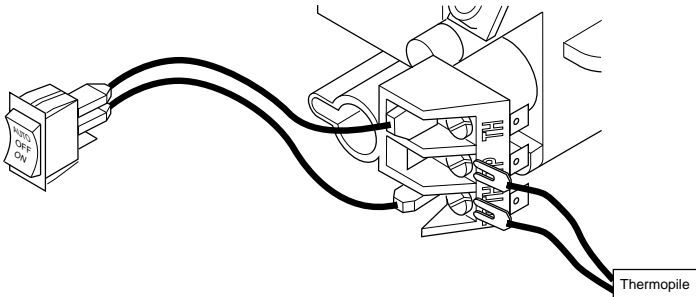

Figure 43 - Switch Wiring Diagram
*Note:* For proper operation of optional accessories, the wires from the switch to the control must be connected exactly as shown in Figures 43 and 44.